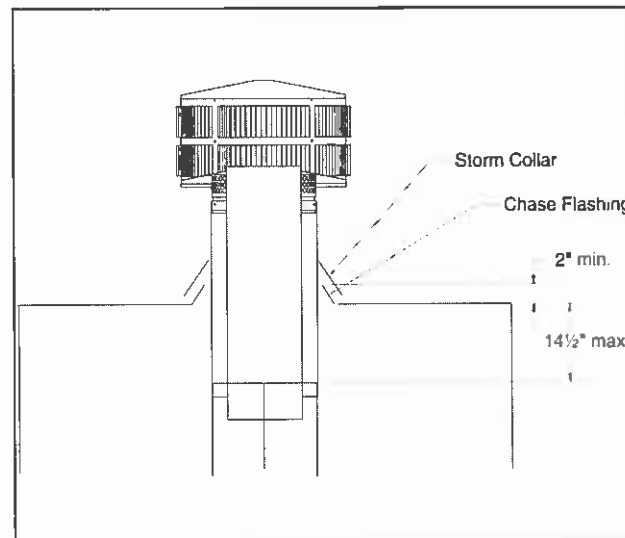

Figure 23 - Installing a TR342 Round Telescoping Termination Cap
- For installations utilizing a TR342 telescoping round termination cap, the uppermost chimney section must be below the top of the chase top, but not more than 14½" below the top of the chase top flashing collar. See Figure 23.